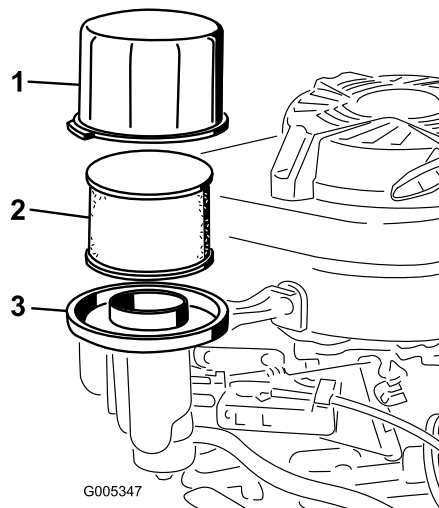

Figure 26
3. Remove the cover and clean it thoroughly (Figure 26).
4. Remove and inspect the paper air filter (Figure 26), and discard it if it is excessively dirty.
5. Remove the foam pre-cleaner and wash it with a mild detergent and water, then blot it dry (Figure 26).